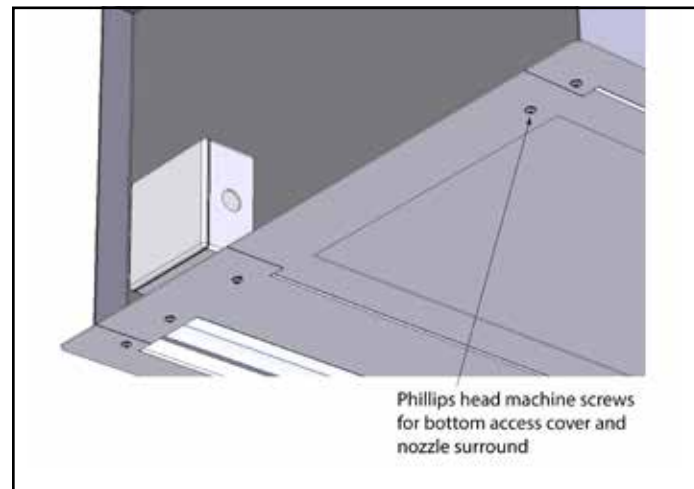

Figure 7
- B. Remove the bottom access cover by removing (2) Phillips head machine screws located at the cover's corners. **See Figure 7.**
2. Remove the bottom access cover by removing (4) Phillips head machine screws located at the cover's corners. **See Figure 7.**
3. If desired, the nozzle surround may be removed to provide more working room. To remove the nozzle surround, remove the (4) Phillips head machine screws from the corners. The Intelliswitch® ribbon cable must also be disconnected from the back of the display circuit board before the nozzle surround can be set aside.